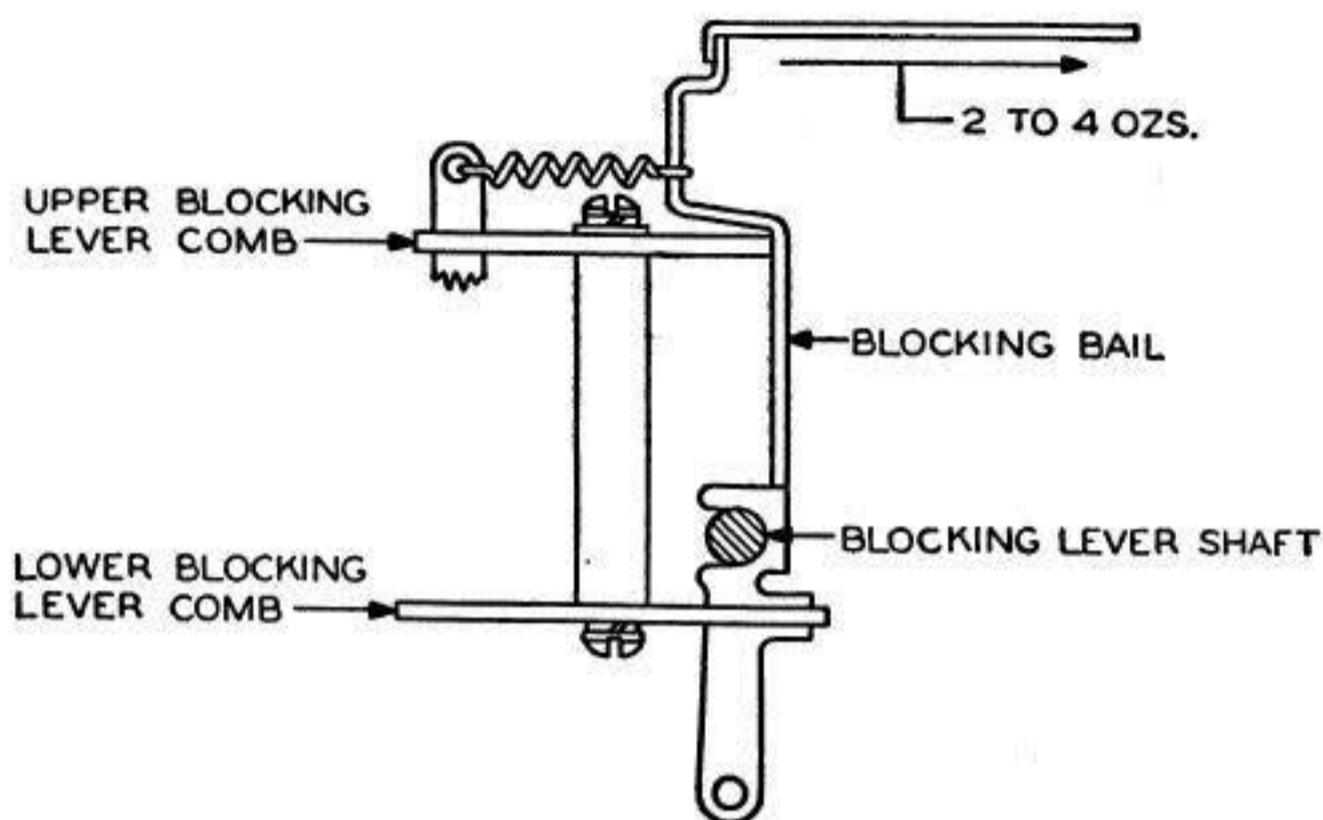

Fig 13
3.21 **Multiple Blocking-Bail Spring:** (BS6L). It should require Min 2 oz, Max 4 oz, to just start the bail moving. **Fig 13**